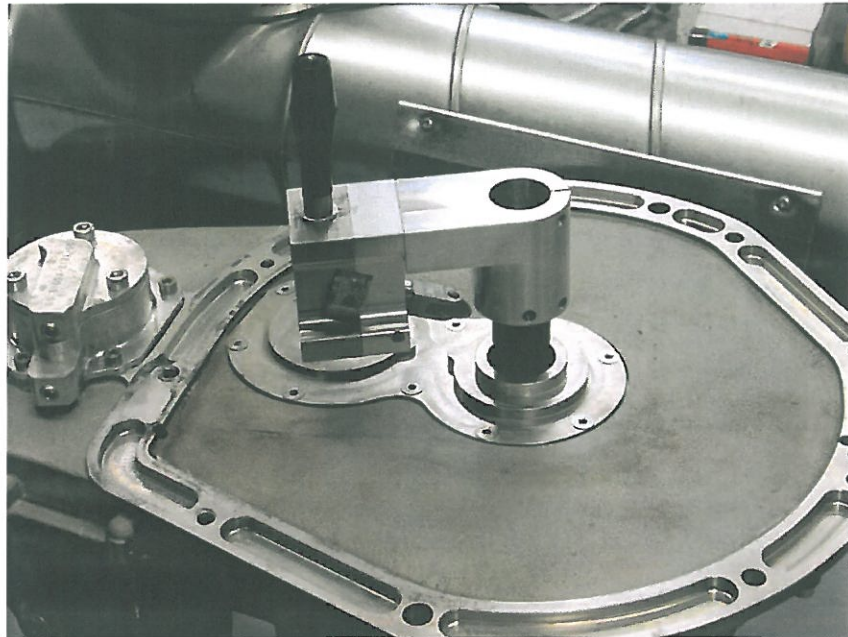

Fig. 2 Install special tool
5. Put the special tool VR00388 to the input shaft of the gearbox. See Fig. 2.